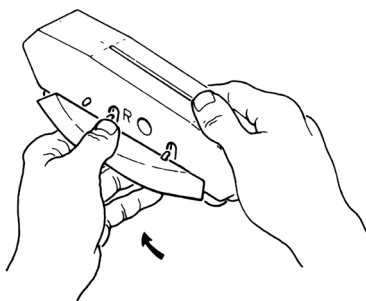

Figure 10
- b) Remove the old wings by bending the wings up toward the sides of the cleaner, and lift them off their hooks (see Figure 10). If any of the wing hooks are broken, take the Cleaner to your dealer for pod replacement as the unit will not function properly if the wings are not properly attached.